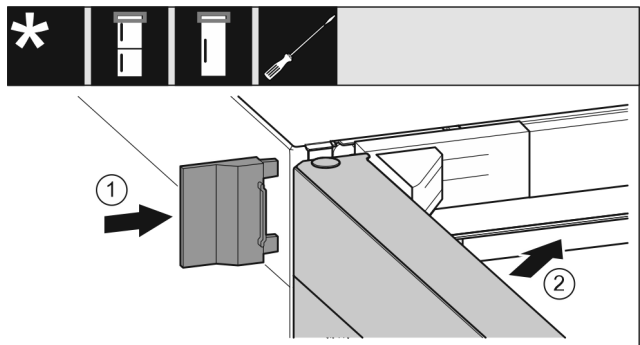

Fig. 27
- ▶ Push the outer cover Fig. 27 (1) on.
- ▶ Close the upper door Fig. 27 (2).